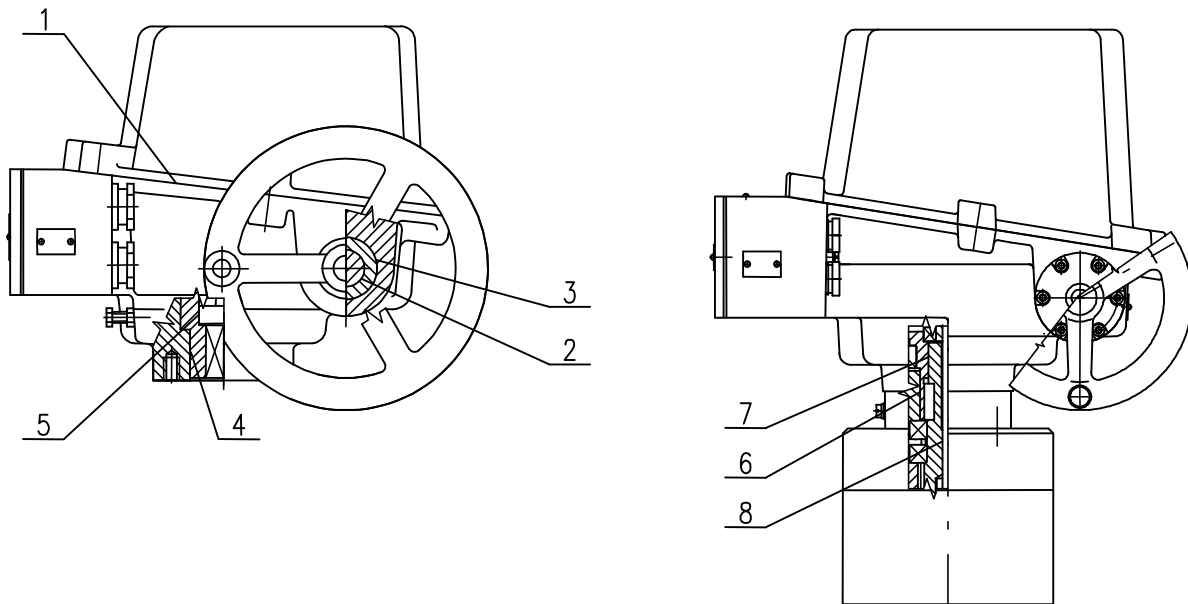

Fig. 10
**The closing surfaces are (Fig.10):**
- the connecting surface of the upper cover and the lower case (1),
- the cylinder part of the manual control mechanism flange and shaft (2),
- the cylinder part of the lower case and the cylinder part of the manual control mechanism flange (3),
- the cylinder part of the lower case and the cylinder part of the crown wheel flange (4).
- the cylinder part of the crown wheel and of the indication shaft (5)
- the cylinder part of the lower case and the cylinder part of the crown wheel (6) valid for ES SP 2.3-Ex, SP 2.4-Ex.
- the cylinder part of the crown wheel and pinion (7) valid for ES SP 2.3-Ex, SP 2.4-Ex
- the cylinder part of pinion and indication shaft (8) valid for ES SP 2.3-Ex, SP 2.4-Ex.